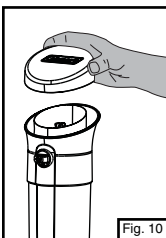

Fig. 10
- For models with a plastic cap, remove plastic cap from torch. (Fig. 10)